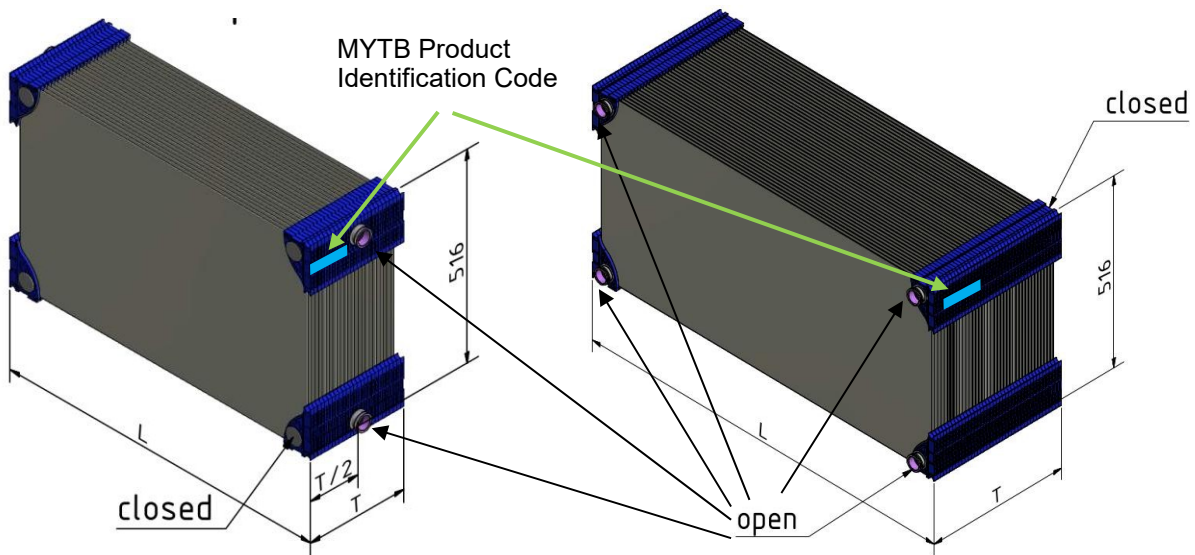

Figure 5: Standard MYTEX membrane blocks with side outlet (left) and with front outlet (right)
- C...number of small membrane blocks with side outlet (see Figure 5 left) per level.
- F...number of big membrane blocks with front outlet (see Figure 5 right) per level.
- D...number of membrane sheets in the membrane block with side outlet (see Figure 5 left)
- G...number of membrane sheets per membrane block with front outlet (see Figure 5 right)